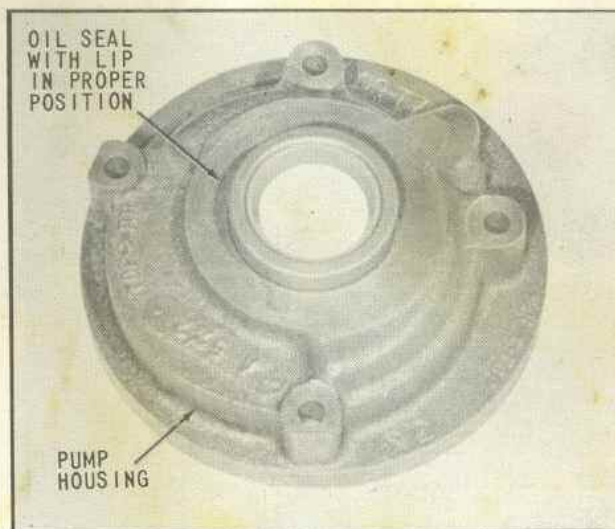

Fig. 92 Installing Oil Seal
6. Place pump housing squarely on arbor press table. Apply a suitable sealant to the outside diameter of seal before installing squarely into bore of housing with seal lip positioned as shown in (Fig. 92). Caution should be observed to insure that too much sealant is not used, that any excess is wiped away after the seal is installed, and that the sealant does not get on the sealing element.